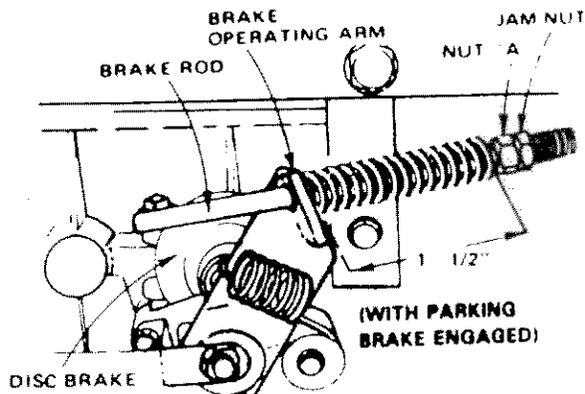

FIGURE 10
This tractor is equipped with an adjustable brake system mounted on the right side of the transaxle (Fig. 10).
- c. If distance is other than 1-1/2" loosen jam nut (Fig. 10) and turn nut "A" until distance becomes 1-1/2", retighten jam nut against nut "A".